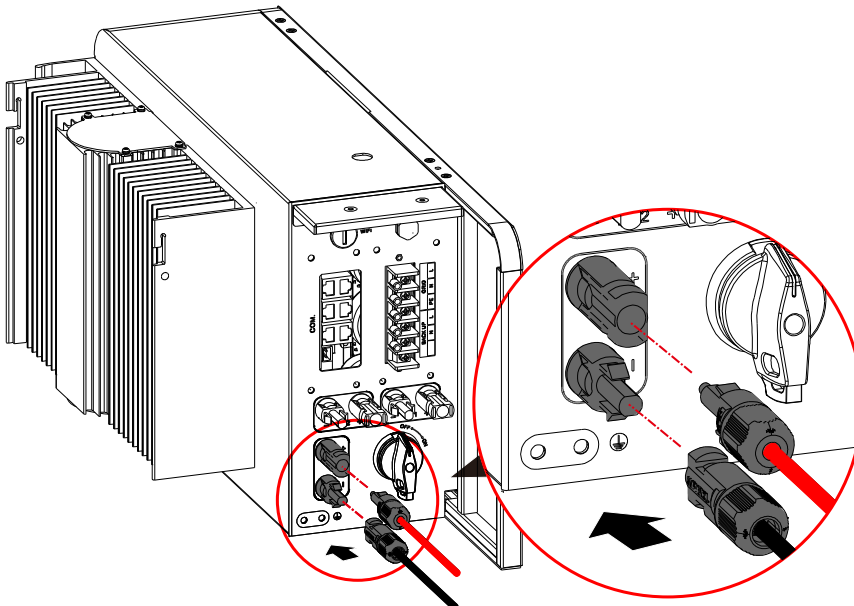

Figure3-31 Connect the BATconnector
- Step 6 Insert the positive connector and negative connector to the PV + and PV – terminals (as shown in Figure3-31) and tighten them. If there has a click sound, it means that the connector have been inserted properly.